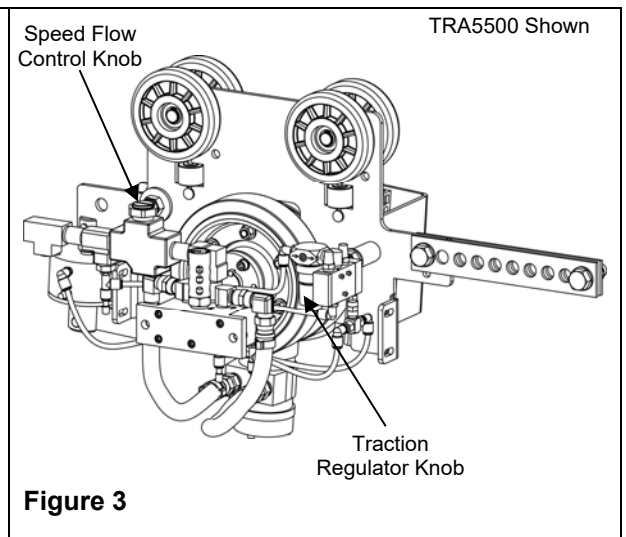

Figure 3
- Step 1. Turn the adjustment flow control knob (see Figure 3) clockwise until it stops.
- Step 1. Turn the adjustment regulator knob (see Figure 3) counter-clockwise until it stops.